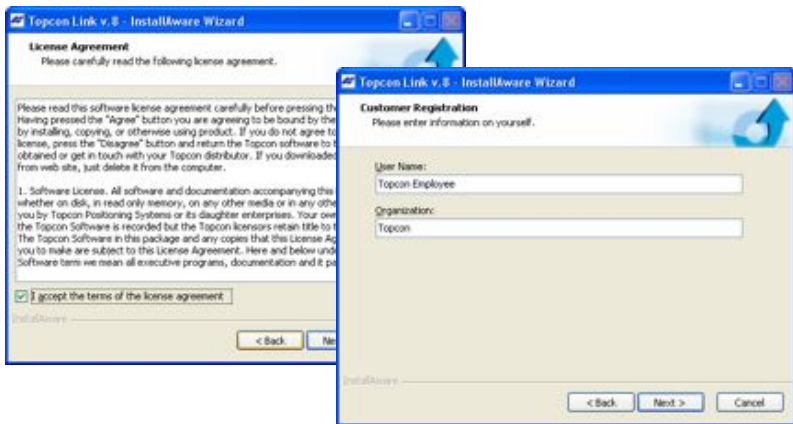

Figure 1-1. Review License Agreement and Enter User Information
- Check the 'I accept the terms of the license agreement' box, to continue the installation (Figure 1-1). Type *User Name* and *Company Name* information, then click **Next** (Figure 1-1)